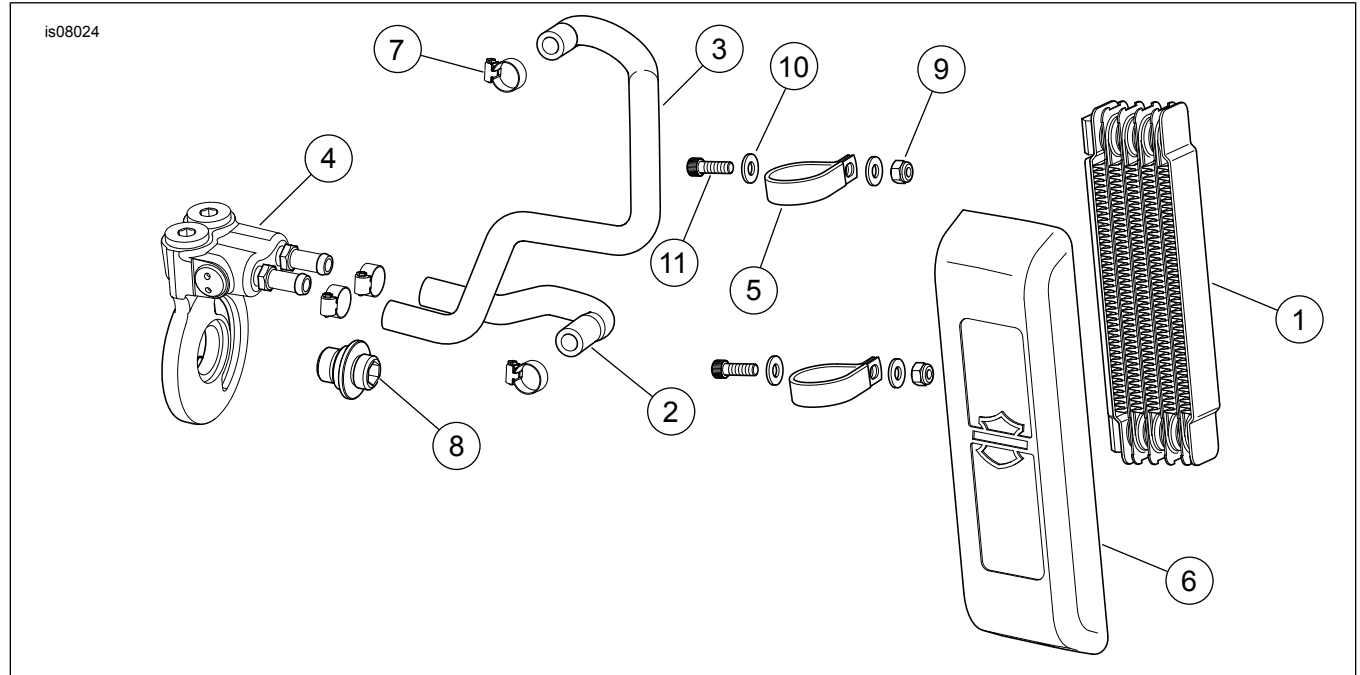

Figure 5. Service Parts: Dyna Oil Cooler
See Figure 5 and Table 1
5. See Figure 5. Install upper hose (3) to barb of oil cooler and tighten with hose clamp (7) to 0.9 N·m (8 in-lbs).
6. Install lower hose (2) to lower barb of oil cooler and tighten with hose clamp (7) to 0.9 N·m (8 in-lbs).